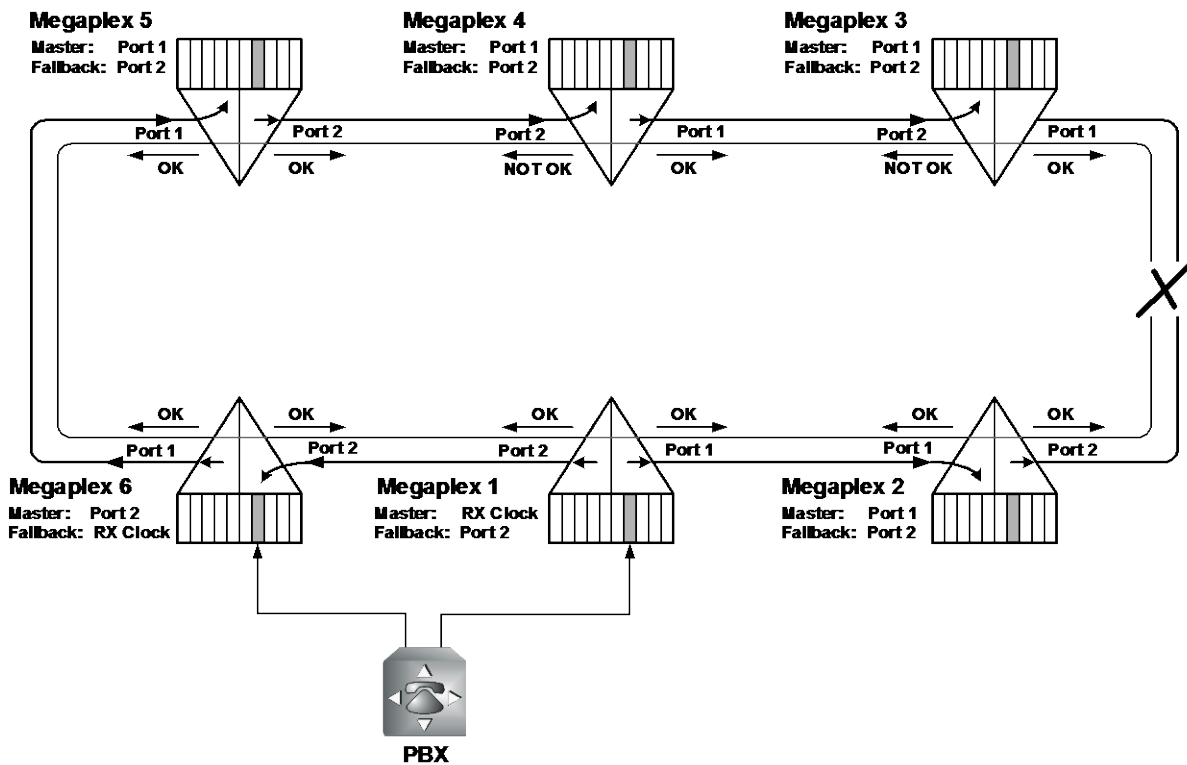
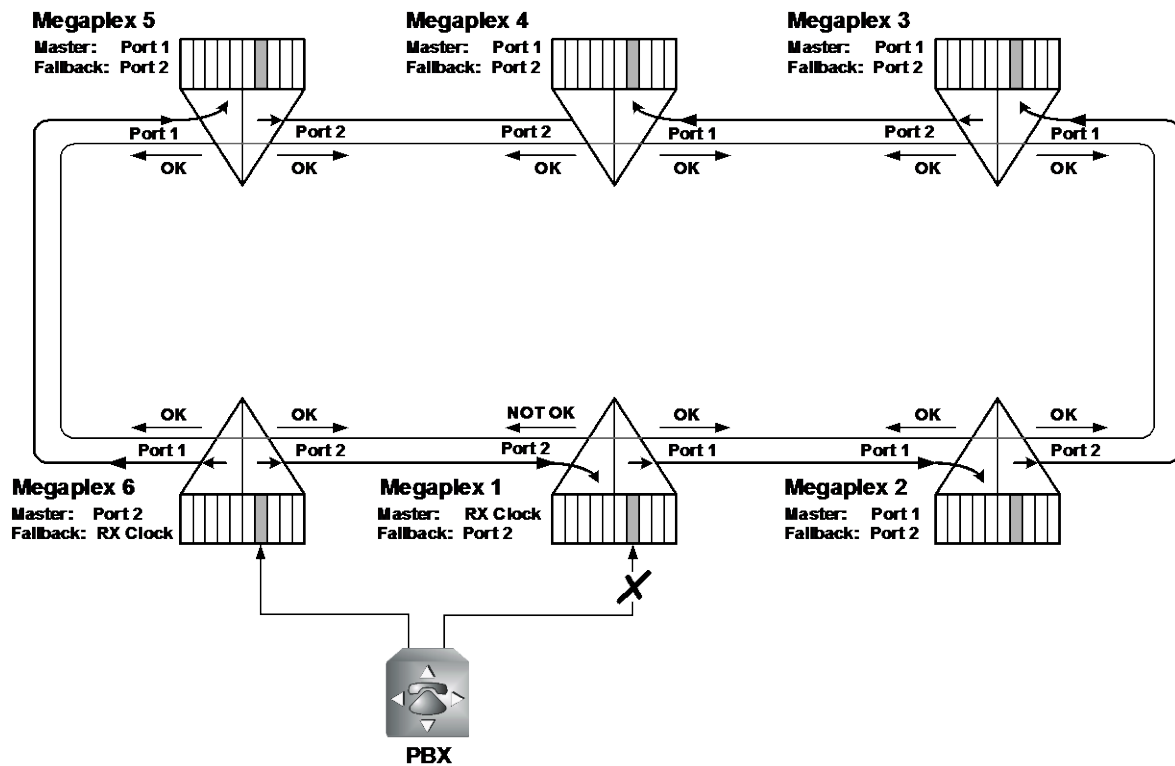

Figure 9-9. Timing Recovery Scenario - after a Ring Fault
Figure 9-10. Timing Recovery Scenario – after Loss of Master Reference
The recovery from faults is illustrated in *Figure 9-9* and *Figure 9-10*:
- In case a fault occurs on the ring (*Figure 9-9*), Megaplex unit 3 can no longer use its master timing. Therefore, the CLOCK FAILURE ON THE RING alarm state is declared, and the following exchange of messages takes place:
At this stage, both the Megaplex 3 and 4 units have reacquired stable timing by switching to their fallback sources. The resulting timing flow is also illustrated in *Figure 9-9*.
- In case the fault occurs in the connection to the PBX (*Figure 9-10*), Megaplex 1 loses its master timing source. Therefore, the CLOCK FAILURE ON THE RING alarm state is declared, and the following exchange of messages takes place:
At this stage, Megaplex 1 has reacquired stable timing by switching to the fallback sources. The resulting timing flow is also illustrated in *Figure 9-10*.